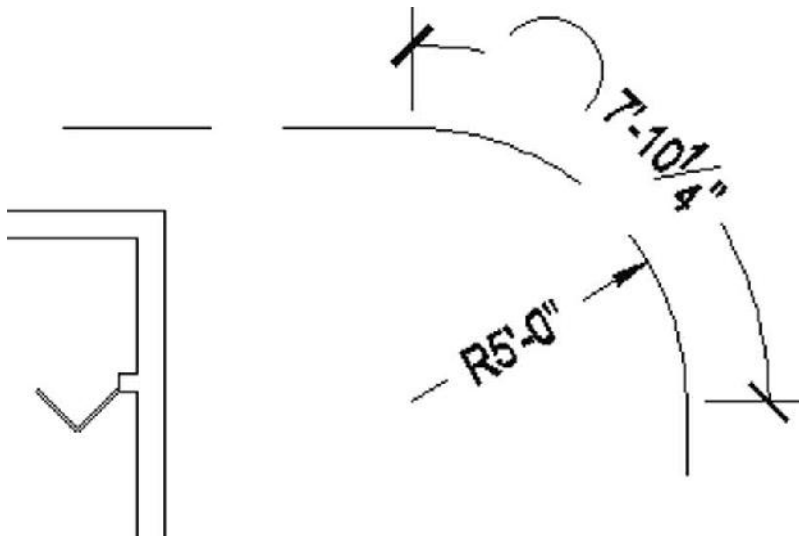

FIGURE 12.32: The Radius dimension after creating a child style
7. Using the Radius tool found on the Dimensions panel within the Annotate tab, redraw the same radial dimension you created earlier. The result should look like Figure 12.32.